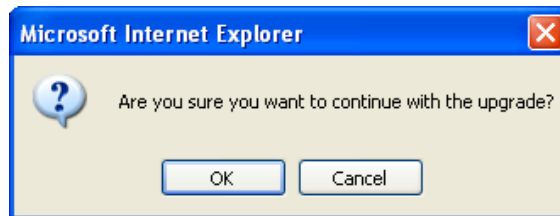

Figure 2-13: Firmware Upgrade Warning Message
4. Click the **Update** button. The precautionary message in Figure 2-13 appears.